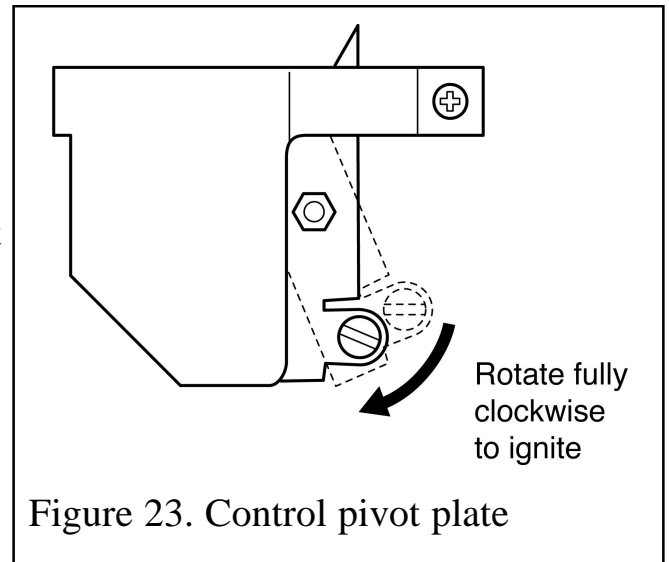

Figure 23. Control pivot plate
2. Rotate the control pivot bracket clockwise as far as it will go and hold in this position (See figure 23). This should close the ignition circuit and simultaneously open the gas tap allowing the gas to flow to the pilot. Wait a few seconds while the air is purged. The electronically generated sparks should light the pilot. The pilot should then light the main burner at its low setting. There may be a delay of up to four seconds between the pilot lighting and ignition of the gas at the main burner. This is normal and is due to the time required to fill the main burner compartment with sufficient gas for ignition.